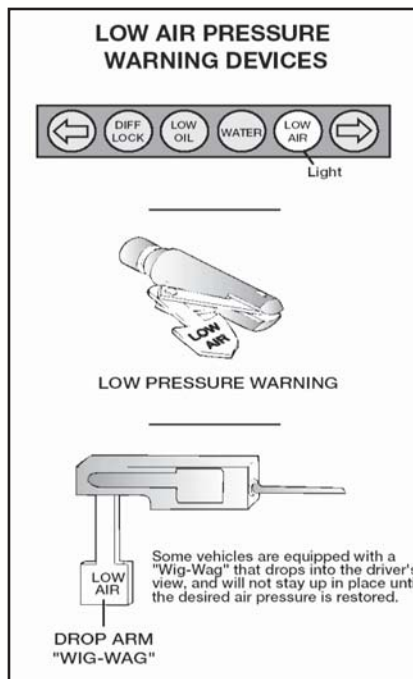

Figure 5.5
**Test Low Pressure Warning Signal:** Shut the engine off when you have enough air pressure so that the low pressure warning signal is not on. Turn the electrical power on and step on and off the brake pedal to reduce air tank pressure. The low air pressure warning signal must come on before the pressure drops to less than 60 psi in the air tank (or tank with the lowest air pressure, in dual air systems). (See Figure 5.5.)